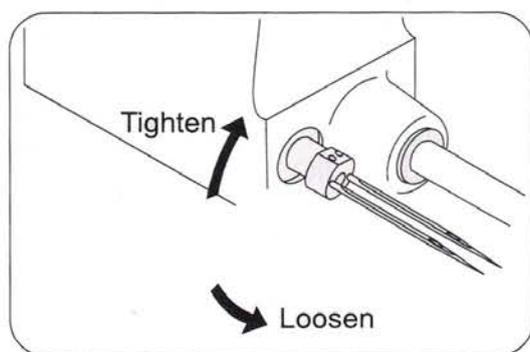

Fig. 2
2. Needle Setting (Fig. 2, 3, 4)
Then, fold or "break" top of bag sharply over contents. See Fig. 2